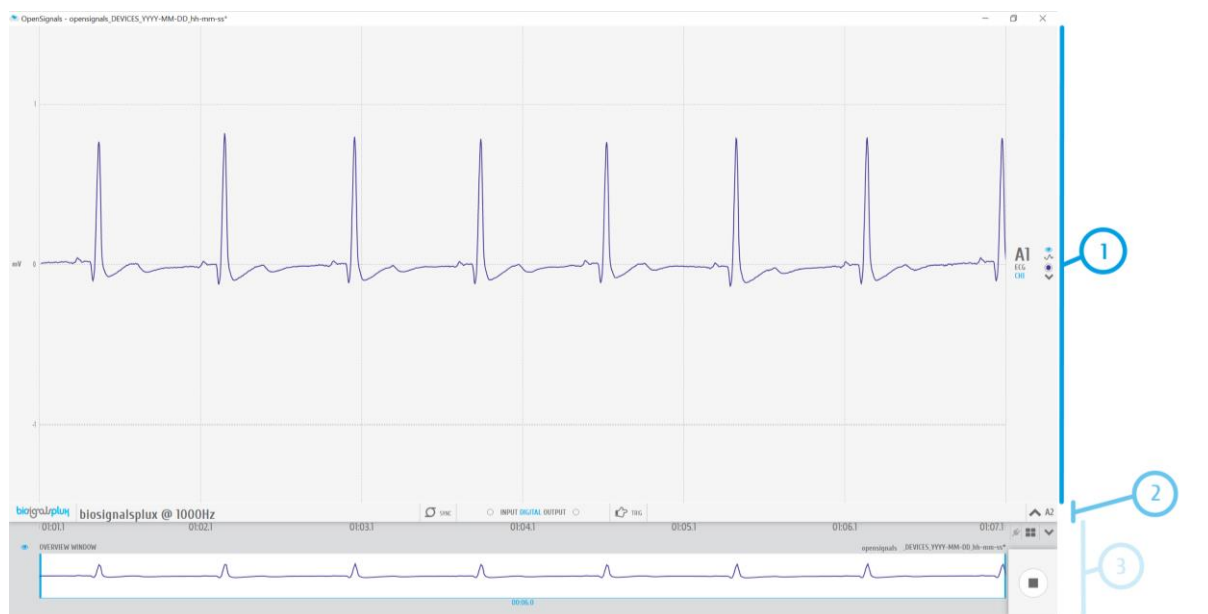

Figure 74: Sections of the visualization mode.
- Signal acquisition (1 in Figure 74; see 3.1.1 *Signal Acquisition*)
- Information bar (2 in Figure 74; see 3.1.2 *Information Bar*)
- Control bar (3 in Figure 74; see 0